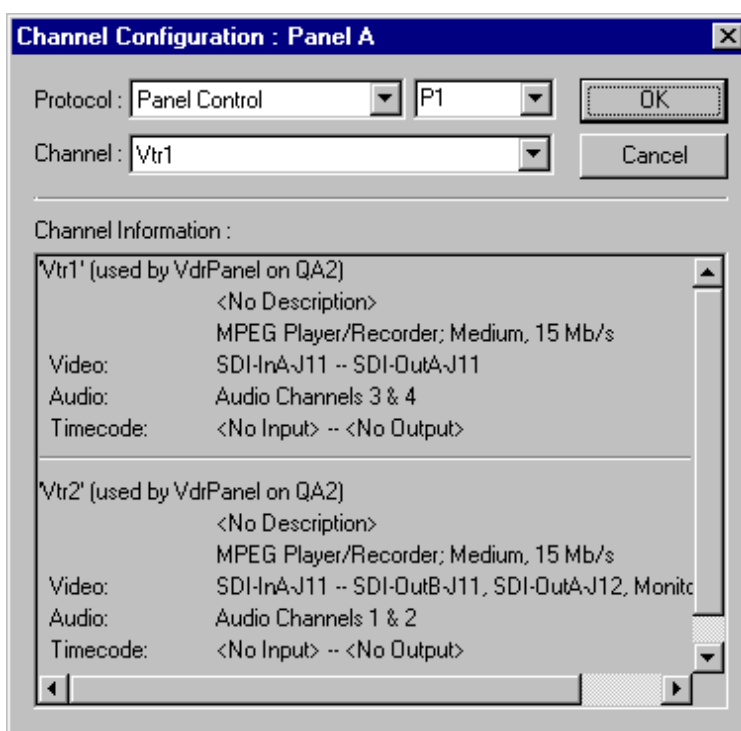

Figure 3. Channel selection dialog box
2. Choose **Controller | Configure** to open the Channel Configuration dialog box (Figure 3).